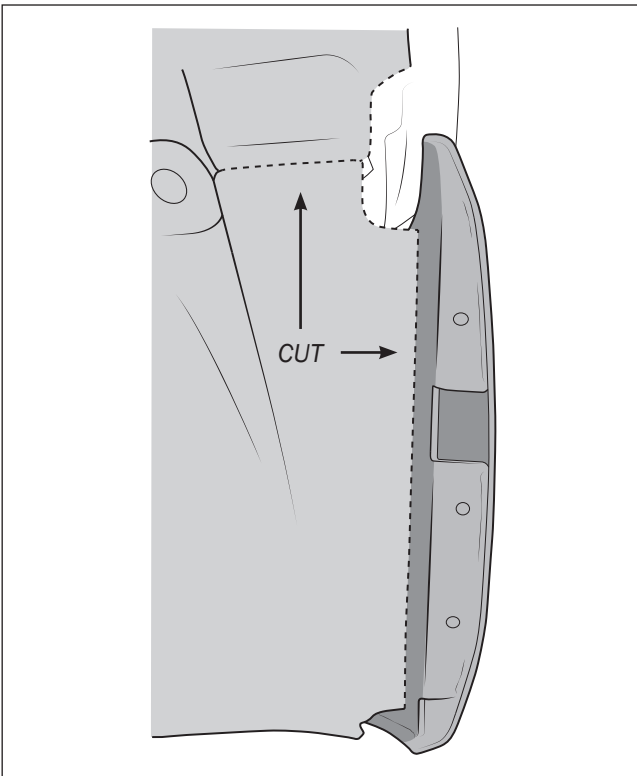

Figure 42
3. Trim the front edge of both inner fender liners to provide approximately 1/2" gap between the liner and the bumper corner (fig. 42).